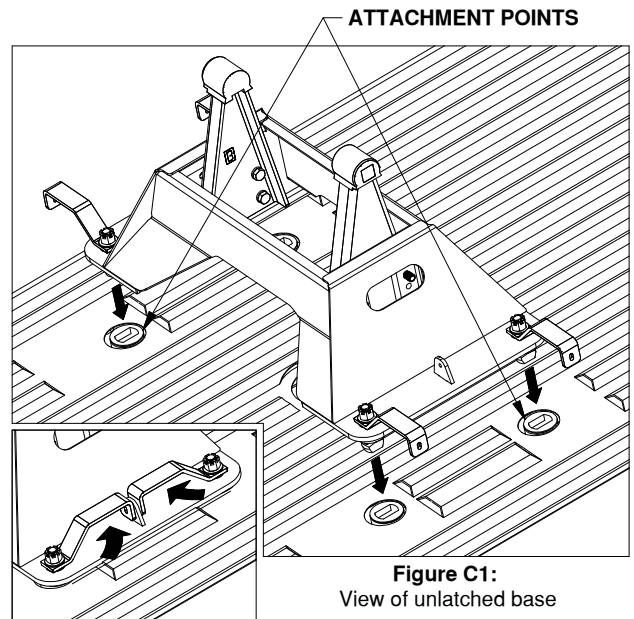

Figure C1:
1. Remove the latch pins from each side of the base and rotate the handles out, see Figure C1. Place the base over the attachment points and carefully lower it until the latch cams pass through the floor and the base rests flat against the top of the attachment points.